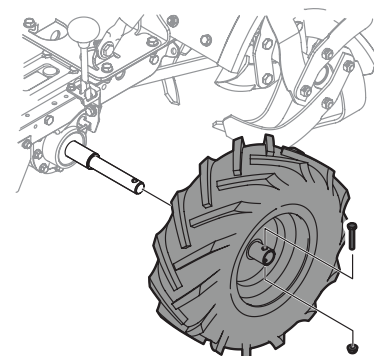

Figure 23
- Remove the left-side wheel by removing the nut and bolt from the wheel axle. See Figure 23.